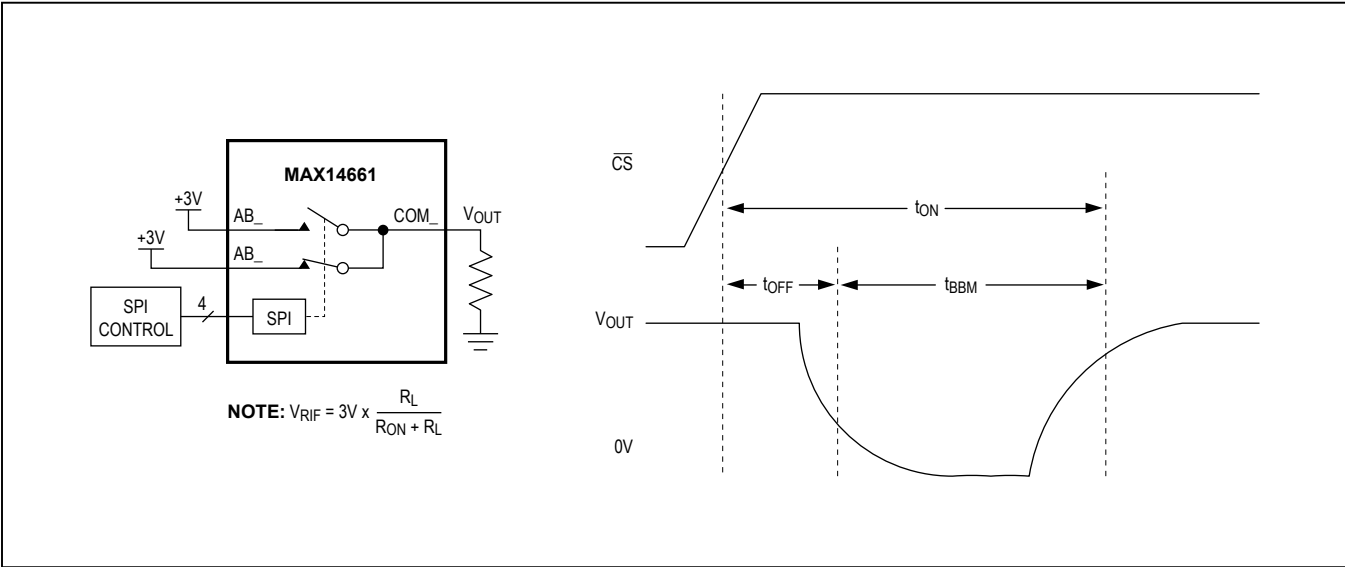

Figure 2. Turn-On/Turn-Off/Break-Before-Make
**Note 6:** Test circuit Figure 2.